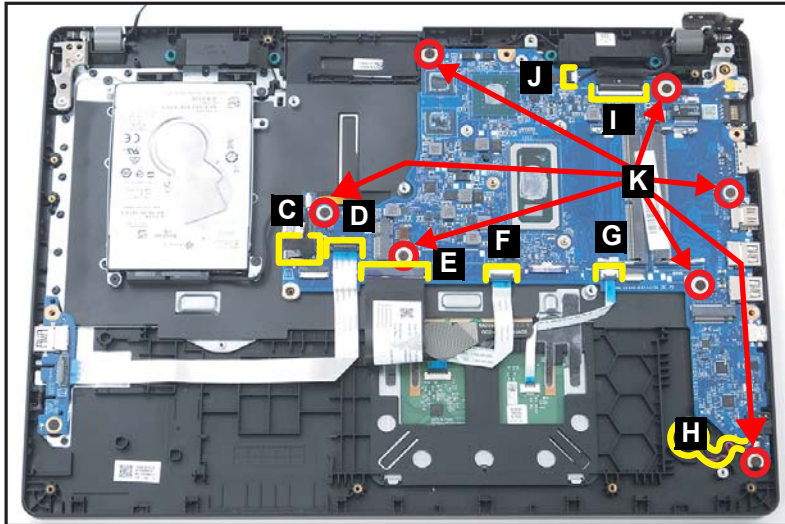

Figure 1-39. Mainboard Removal
5. Disconnect the HDD cable from the mainboard connector (C) (Figure 1-39).
6. Disconnect the USB board FFC from the mainboard connector (D) (Figure 1-39).
7. Disconnect the keyboard FPC from the mainboard connector (E) (Figure 1-39).
8. Disconnect the touchpad FFC from the mainboard connector (F) (Figure 1-39).
9. Disconnect the fingerprint FFC from the mainboard connector (G) (Figure 1-39).
10. Pry to detach the adhesive tape underneath the RTC battery. Then remove the RTC battery (H) (Figure 1-39).
11. Disconnect the eDP cable from the mainboard connector (I) (Figure 1-39).
12. Disconnect the speaker cable from the mainboard connector (J) (Figure 1-39)
13. Remove seven (7) screws (K) securing the mainboard in place (Figure 1-39).